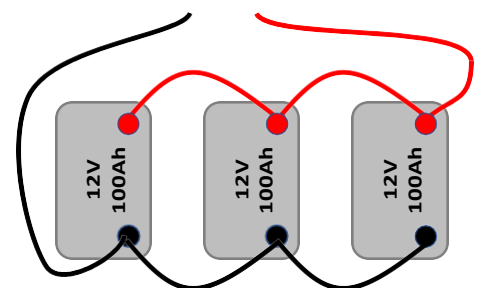

Fig.7
- To increase the storage capacity of an auxiliary battery system, connect multiple batteries in parallel. If there are more than 2 or 3 batteries in the parallel group, connecting the power and charging cables to opposite ends of the group will balance out any voltage drop when discharging or charging (Fig.7).